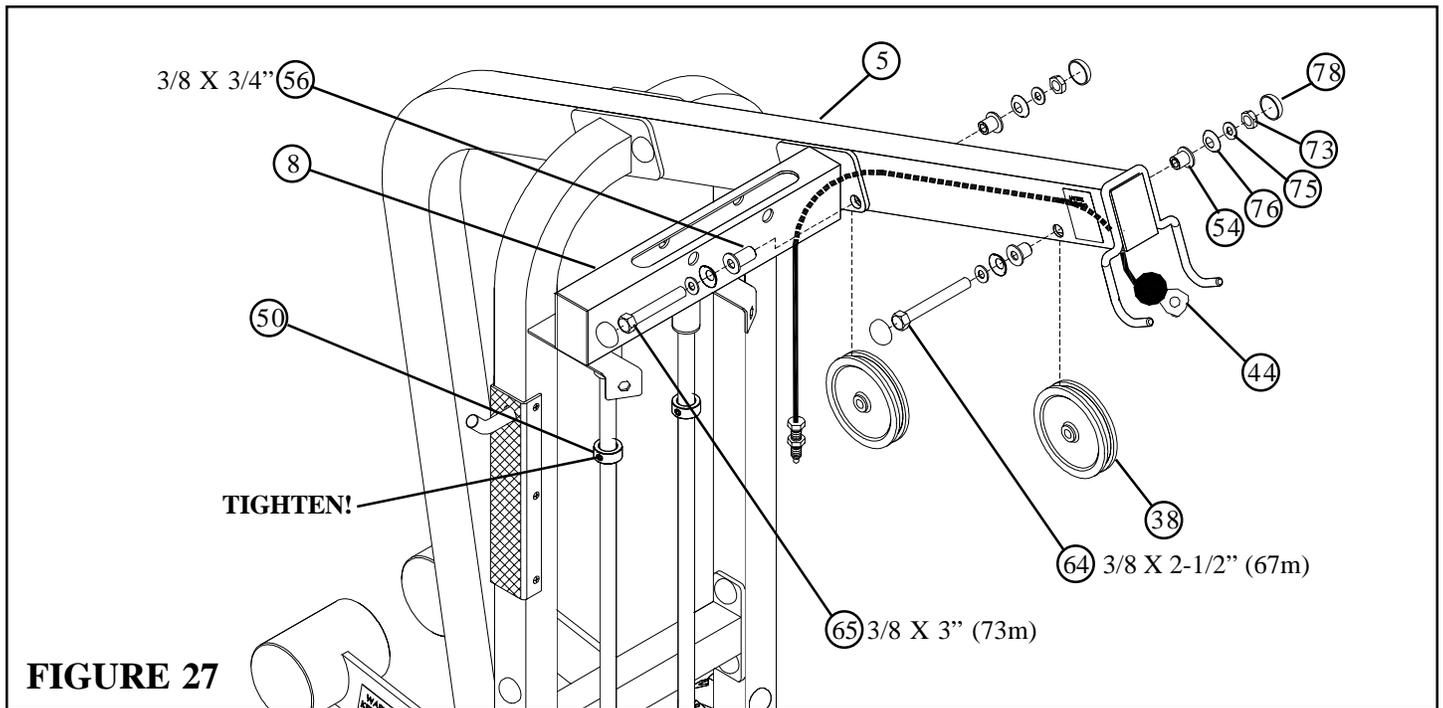

**FIGURE 26**
- **LOOSELY** assemble the STACK BOOM (8) to the REAR UPRIGHT (5) using two RH CAPS (78), one 3/8 X 2-1/2" BOLT (64), two 3/8" SAE WASHERS (75), two 3/8" RH WASHERS (76) and one 3/8" LOW HEIGHT LOCK NUT (73) as shown in FIGURE 26.